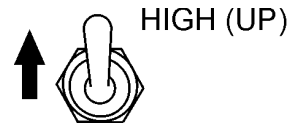

Figure 51. Engine Speed Switch (High)
2. Place the **engine speed switch** (Figure 51) in the **HIGH** position